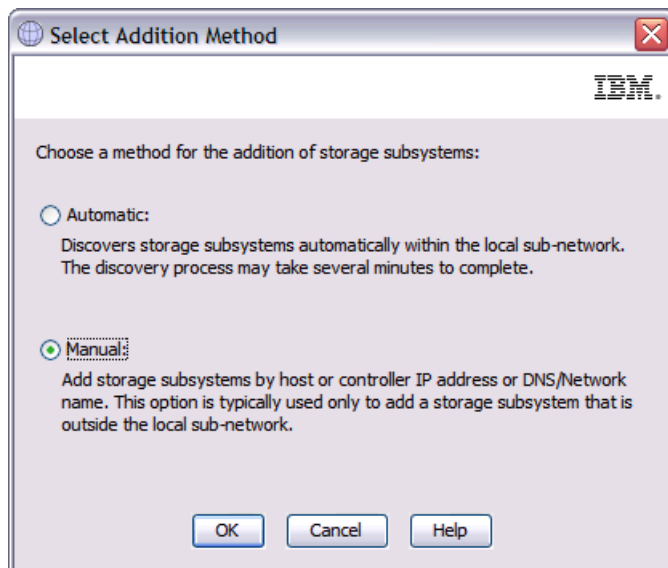

Figure 5-26 Select Addition Method-Manual
2. Select Manual as shown in Figure 5-26 and click **OK**.